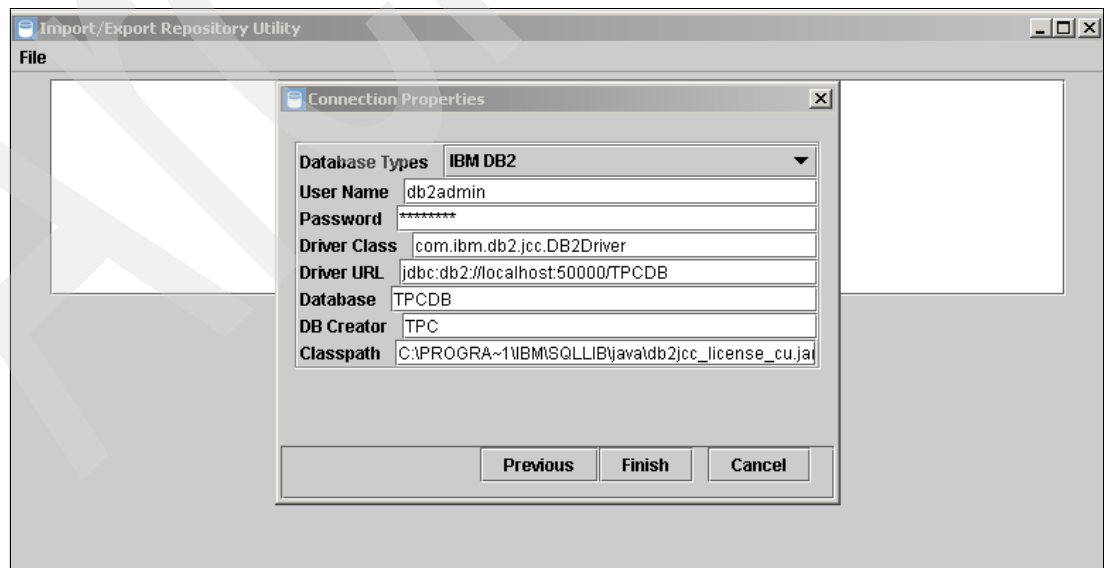

Figure 6-89 Enter the Connection Properties for importing the repository
5. Click **Next**. The Connection Properties panel displays (see Figure 6-89).